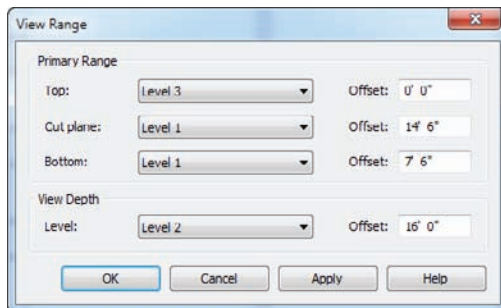

FIGURE 9.16 Configuring the View Range for the crop region
- Set View Depth Level to Level 2 with an Offset value of 16'-0" (4800mm), as shown in Figure 9.16.